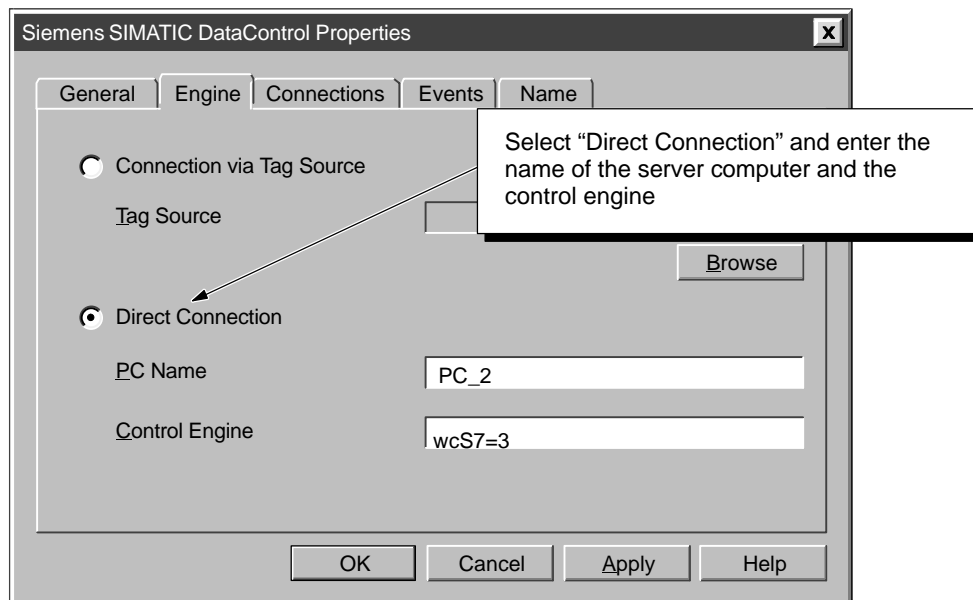

Figure 5-6 Configuring DCOM for a Specific Control Engine
3. Select the "Direct Connection" option. See Figure 5-6.